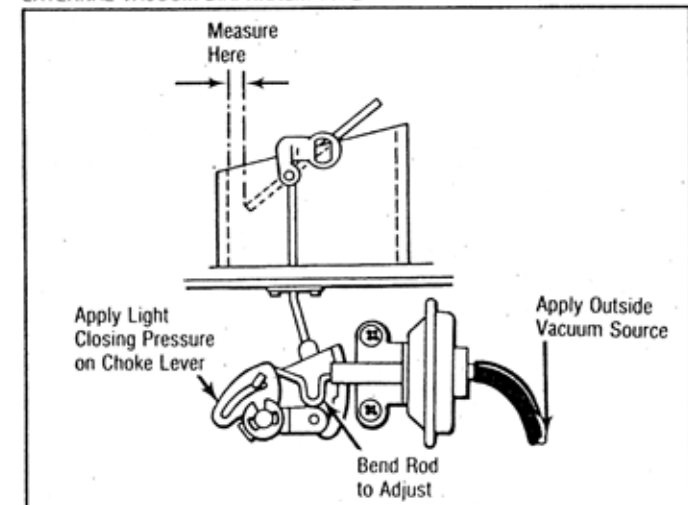

Fig. 9 Choke Pull Down Adjustment (External Vacuum Diaphragm Type)
1. Position fast idle tang on second highest step of fast idle cam. Seat vacuum diaphragm by applying a vacuum source of at least 15 in. Hg. See Fig. 9.